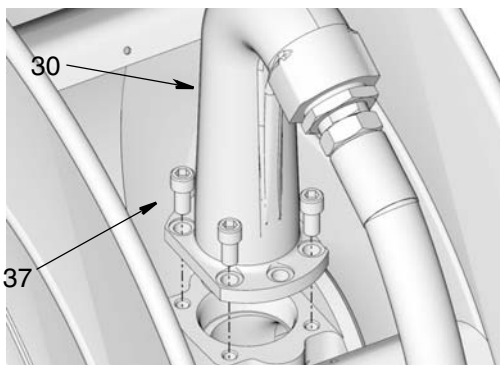

FIG. 57
8. With hose still attached to outlet, remove bolts (37) and outlet (30) from spool (FIG. 57).